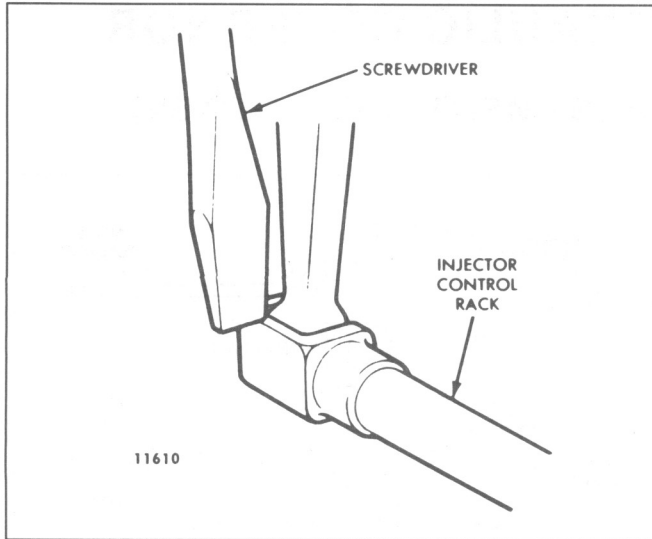

Fig. 4 – Checking Injector Rack “Spring”
7. To be sure the rack control lever is properly adjusted, press down on the injector rack with a screw driver or finger tip (Fig. 4). A light pressure should cause the rack to rotate. The rack is sufficiently tight if the rack returns (“springs” back) to its *original* position when the pressure is removed. The rack is too tight if a heavy pressure is required to rotate the rack.